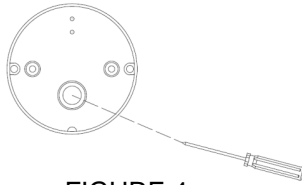

FIGURE 4
- Use a bradawl to punch a small hole in the mounting plate cable grommet, to allow the supply cable to enter the mounting plate. FIGURE 4